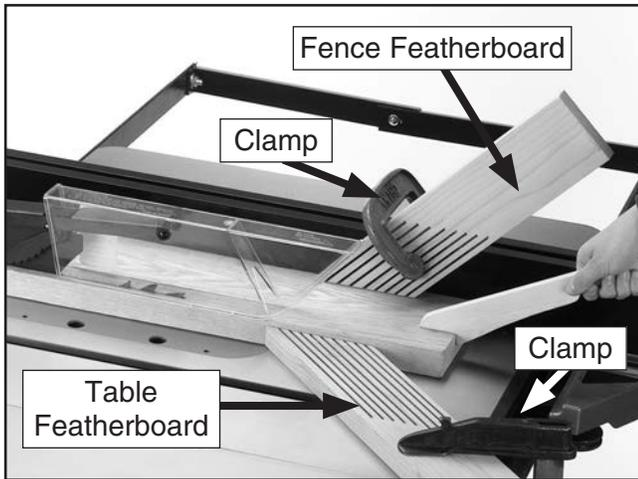

Figure 77. Example of featherboards secured with clamps.
3. Place a featherboard on the table away from the blade so all fingers point forward and contact the workpiece (see **Figure 77**).
6. Mount a second featherboard to the fence with another clamp (see **Figure 77**), then repeat **Step 5** to ensure it is secure.